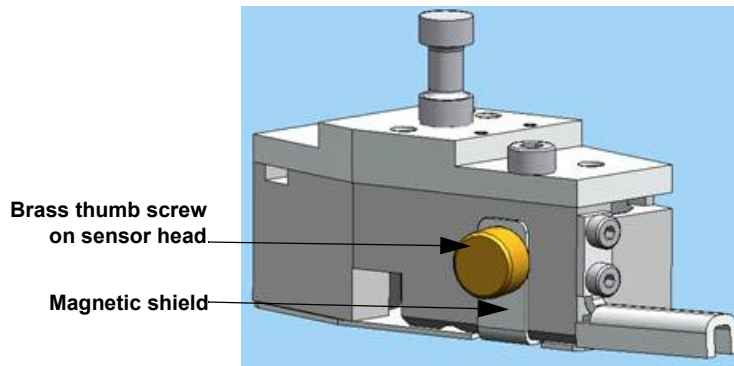

Figure 3-16: Sensor Head with Magnetic Shield Attached
- 4 On the profiler, turn the brass thumbscrew on the left side of the sensor head counter-clockwise to loosen the sensor head magnetic shield (see Figure 3-16).